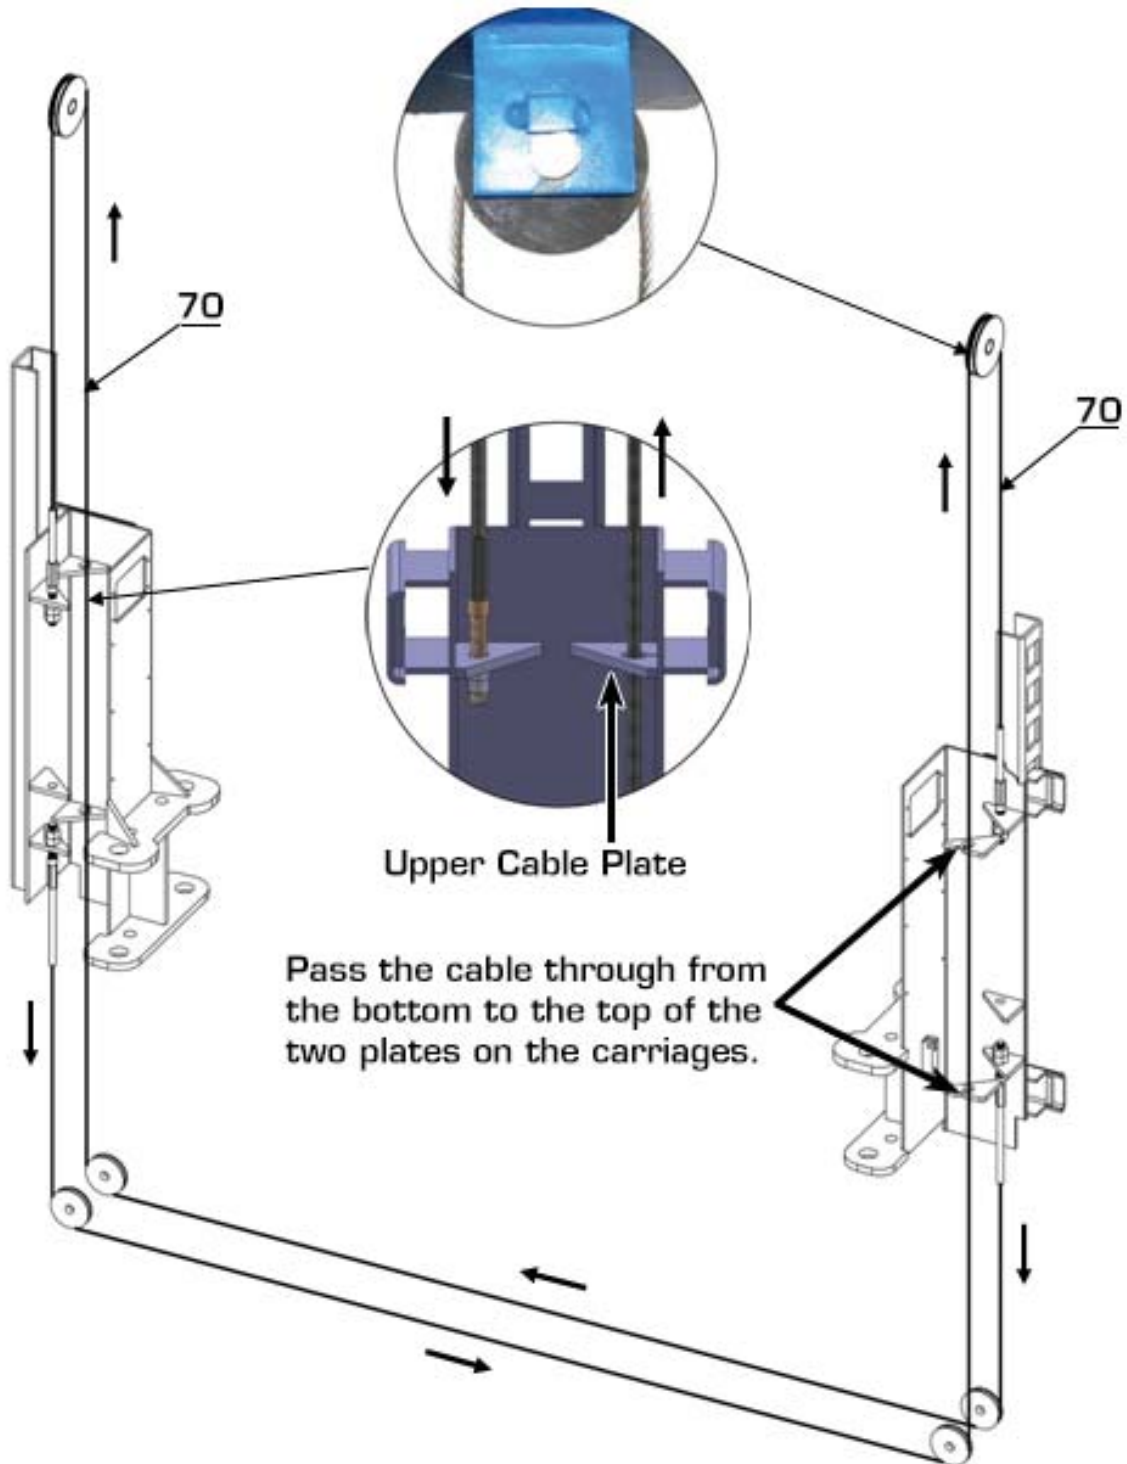

Fig. 19
1. For width distance with 150 3/4" (See Fig.19).